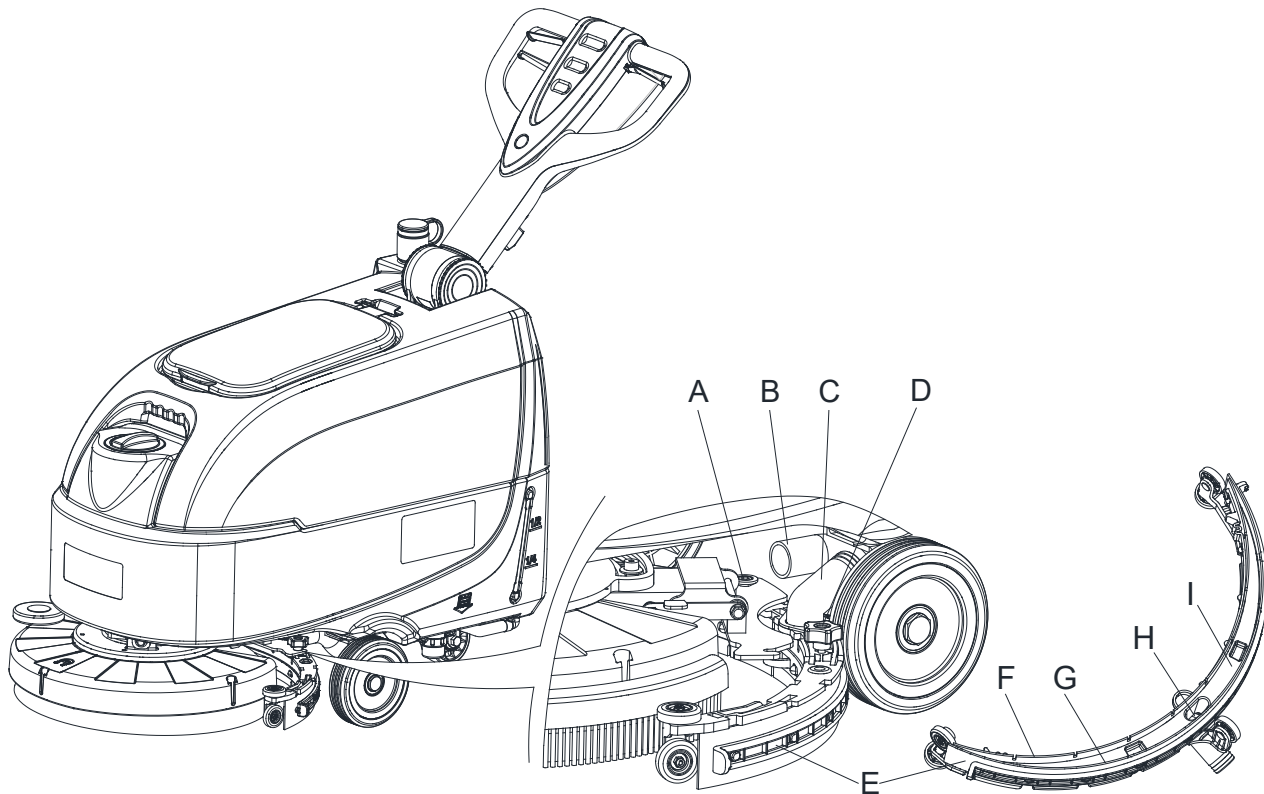
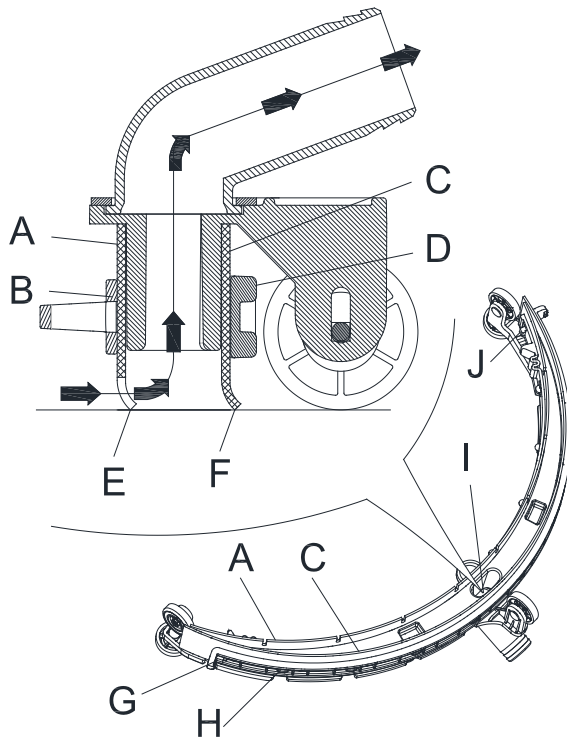

Figure 2
Figure 3
2. Check the condition of the front (A, Figure 3) and rear (C) blades, ensuring there are no cuts and tears; if necessary, replace them as shown below. Check that the front corner (F) of the rear blade is not worn; otherwise, turn the blade to replace the worn corner with one of the three remaining intact corners. If the other corners are worn too, replace the blade according to the following procedure:
- Use the tab (G) to release and remove the elastic strap (D) from the fasteners (H), then turn or replace the rear blade (C).
- Install the rear blade in the reverse order of removal. Fasten the elastic strap (D) to the fasteners (H) starting from one side. To make the fastening procedure easier, secure the fasteners one at a time, by locking the strap before the fastener with one hand and pulling it with the other hand.
- Remove the fastening strap (B) by disengaging it from the fasteners (J).
- Replace (or overturn) the front blade (A), then reinstall the fastening strap (B).
3. Install the squeegee (E, Figure 2) and fasten the knob (D, Figure 2).
4. Connect the vacuum hose (B, Figure 2) to the squeegee connector (C, Figure 2).